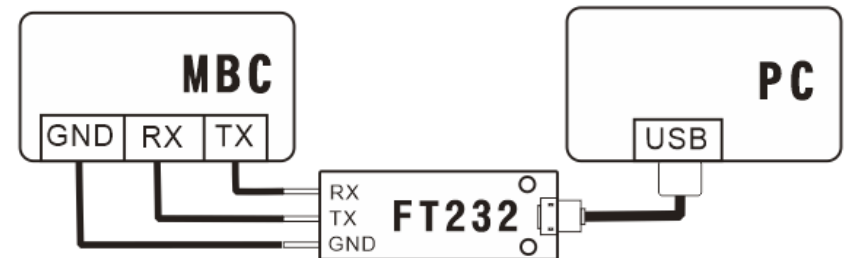

Figure 4. UART Connection
- (1) Connect controller's output and feedback input properly.
- (2) Use UART accessories to connect the controller to PC as shown in Figure4.
- (3) Turn on bias controller.
- (4) Use GUI software or Matlab script to operate the UART function.